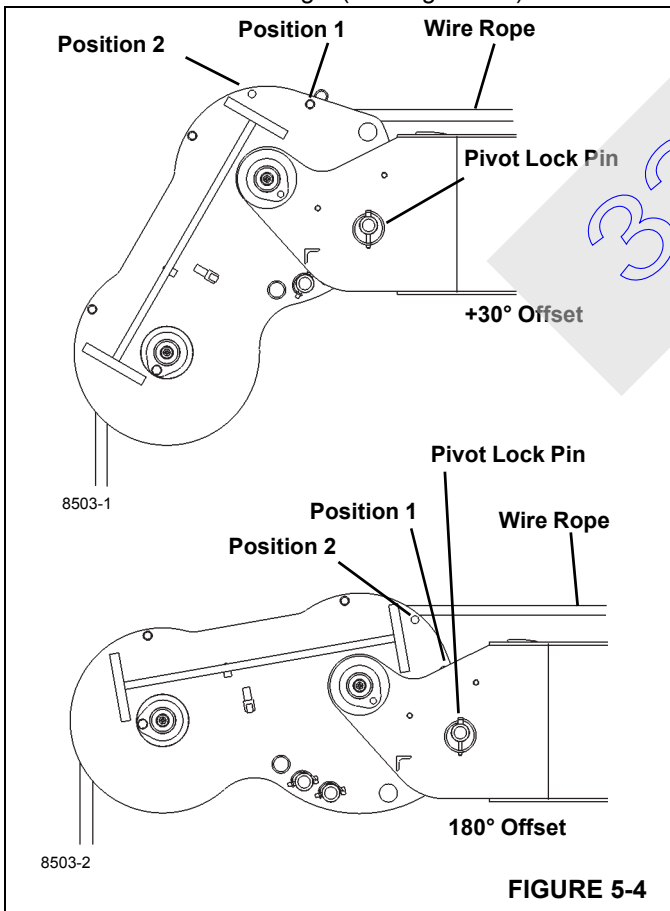

FIGURE 5-4
7. When offsetting boom head (Figure 5-4) to +30° move rope retention pin from position 1 to position 2 and run rope between pin and sheave wheel.
8. When offsetting boom head (Figure 5-4) to 180° move rope retention pin from position 1 to position 2 and run rope above pin and sheave wheel.
9. After installing the rope retention pin and retaining clip into the boom head (Figure 5-4). Check that the wire rope is not contacting retention pin at the top of the boom head.
4. Remove the lynch pin from the pivot lock pin (Figure 5-4).
9. When offsetting boom head (Figure 5-4) to +30° move rope retention pin from position 1 to position 2 and run rope between pin and sheave wheel. Check that the wire rope is not contacting retention pin at the top of the boom head.